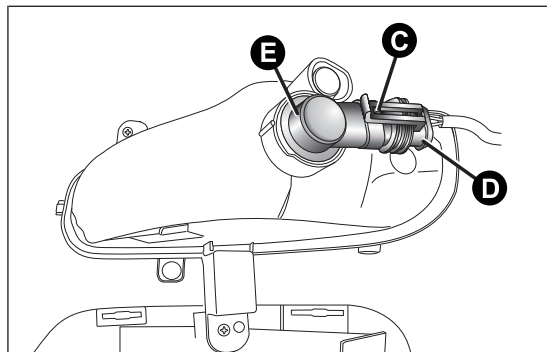

fig. 132
- ☐ adjust the catch C fig. 132 and disconnect the electrical connector D;